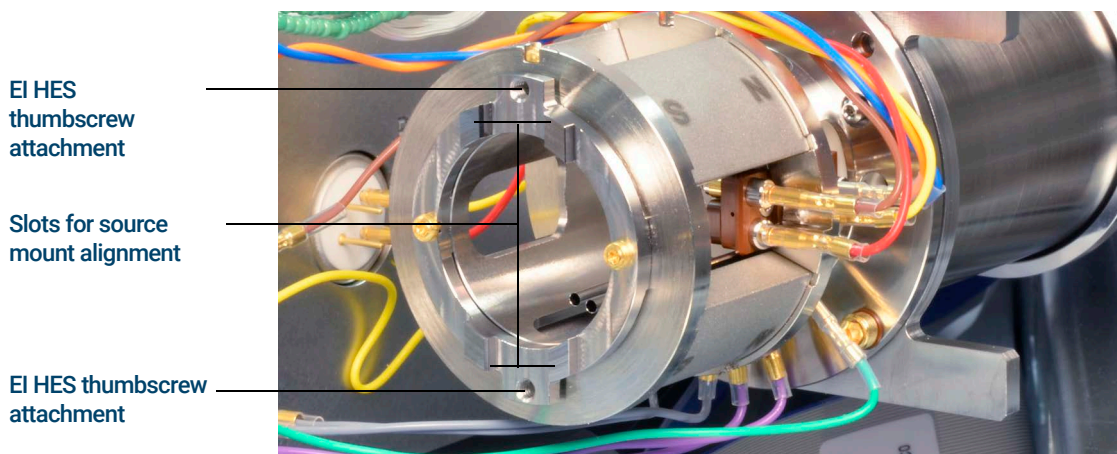

Figure 62. The EI HES radiator
- 3 Align the ion source so that the slotted opening for the lens stack, where the lens numbers are visible, is on the right side. Also, position it so the two attachment tabs of the source mount align with the corresponding slots in the source radiator. (See Figure 62). Slide the ion source into the source radiator until resistance is felt.
- 6 Install and hand-tighten the source thumbscrews. Do not over-tighten the thumbscrews. (See Figure 62 on page 195.)